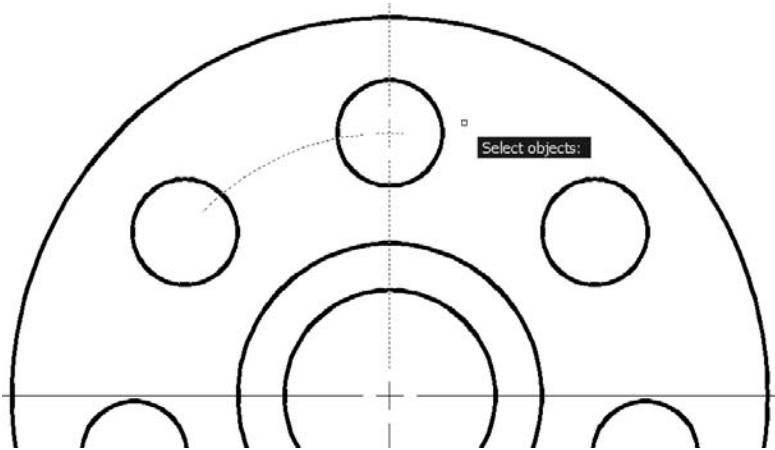

Figure 4.40
3. Array the group of entities shown in Figure 4.40, which represent the repeatable pattern for the circular center marks as many times as there are holes.